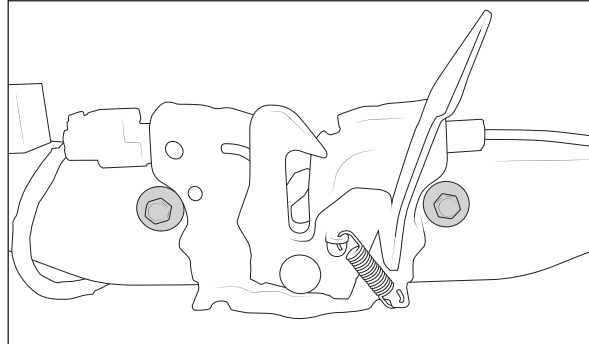

Figure 6
- C. If the front edge of the hood is too low and not flush with the surface of the fenders, you may need to adjust the latch mechanism. Do this by loosening the two 10 mm bolts and shift the mechanism upwards (fig. 6). Re-tighten the bolts and check for flushness. If the hood is still low, you may need to add shims under the latch striker mounted on the hood.